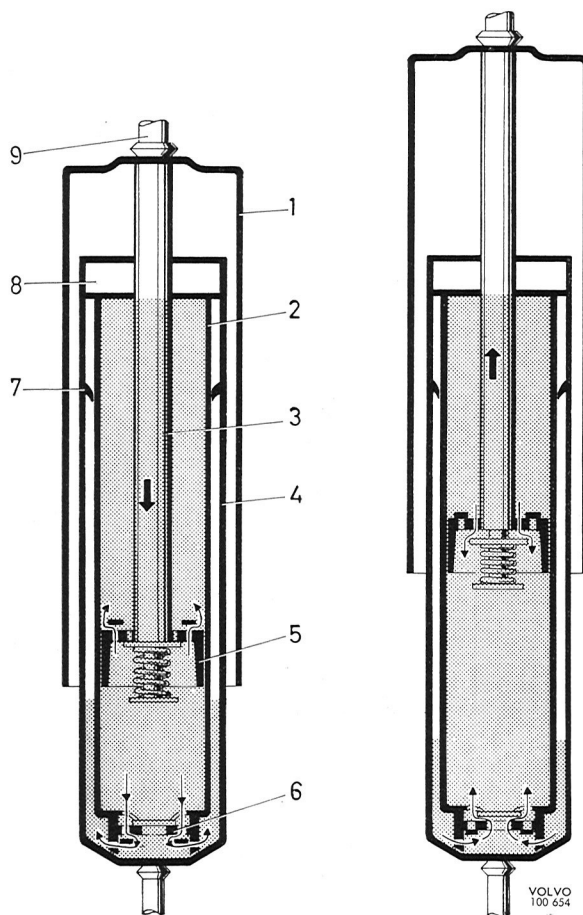

Fig. 7-7. Shock absorber, function
The design of the shock absorbers is shown in Fig. 7-7. The outer cylinder (1) serves only as protection against dust and dirt. The other two cylinders (2 and 4) are concentrically arranged, one inside the other. The inner cylinder (2) is the actual working cylinder and the lower end is provided with a valve (6). Inside the inner cylinder there is a piston (5) in which holes are drilled, the passage of oil through these holes being checked by valves. The piston is attached to a piston rod (3), whose upper end forms an attachment to the body. At the opposite end of the shock absorber is attached a similar screw attachment. The space between the cylinders (2 and 4) serves as a reservoir and is only partially filled with fluid. The inner cylinder (2) is completely filled with fluid on both sides of the piston (5). The cover (8) serves as a seal and guide for the piston rod (3). The baffle ring (7) acts as a baffle for the fluid.